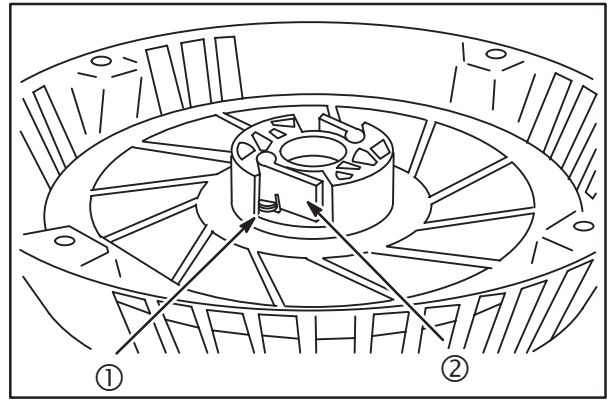

Fig. 72
- Install dogs (2) and dog springs (1) in pulley, **Fig. 72**.